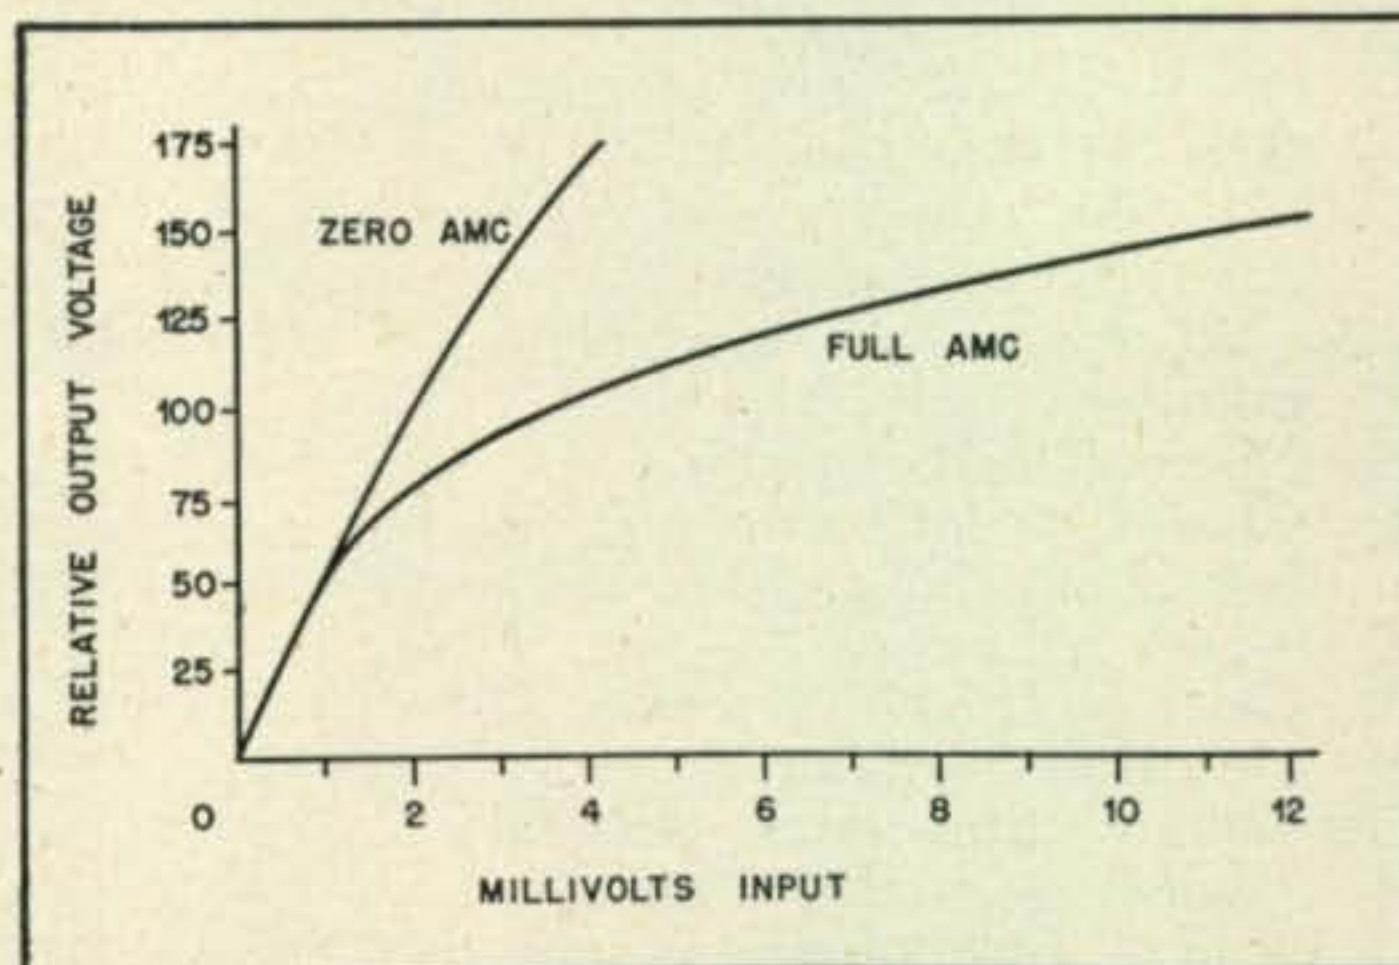

Fig. 2. Automatic modulation control characteristic curve.
*Figure 2* gives an idea of how the voice compression system works. This a-m-c system is not complicated, but it will do a lot of compressing. Further, the amount of compression is easily adjusted by *R7*. If you have an urge to do a lot of whistling while testing, run *R7* all the way over and then see how much harder it is to make that antenna ammeter push up-scale!